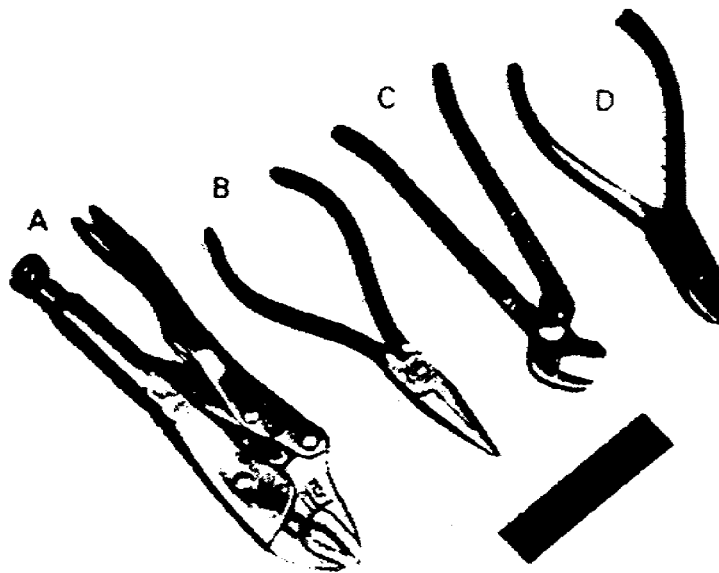

Figure 18. Can you name these tools?
9. From the items shown in figure 18, select an example of diagonal cutting pliers.